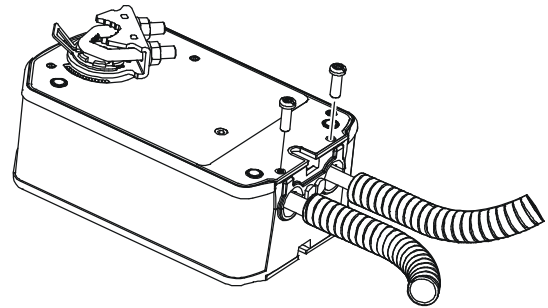

Figure 11: Adding Flexible Metal Conduit
2. Push the conduit into the holes in the actuator and secure it with the supplied 10-32 x 9/16 in. screws, as illustrated in Figure 11. The product label marks the position of holes for the screws. Drive the screws through the product label in the marked positions. Drive the screwhead flush with the plate to secure the conduit.